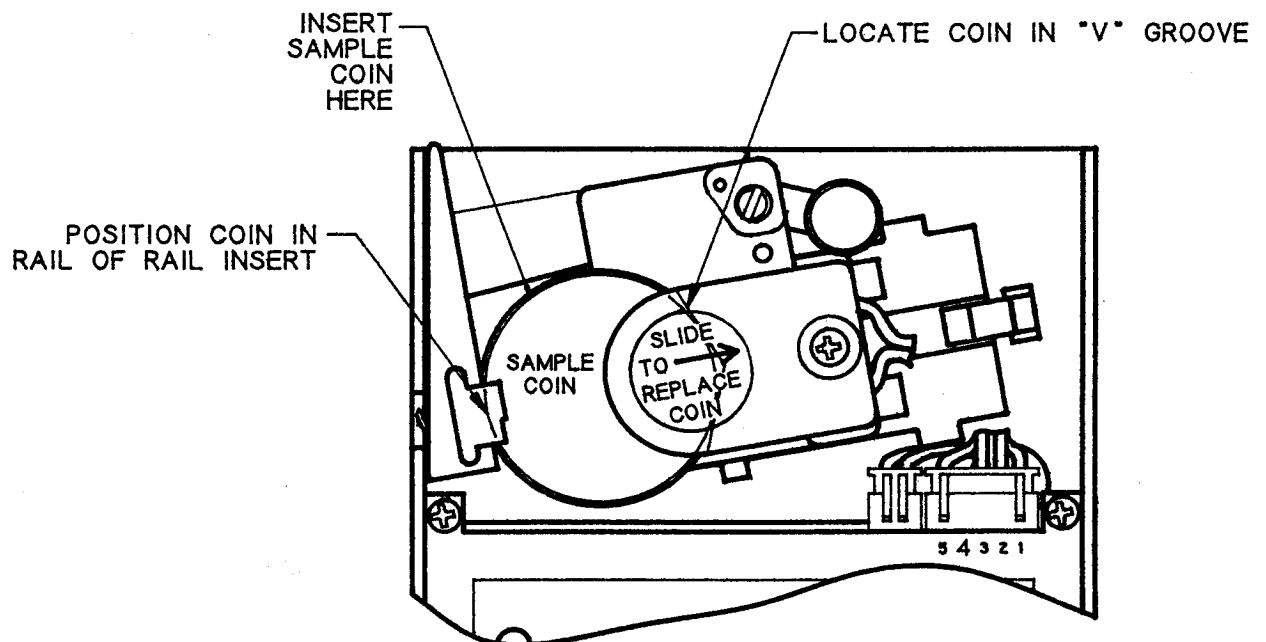

FIG. 3
- 1A. POWER OFF, INSERT PLASTIC TOKEN (SEE FIG. 3).
1 C. IF METER READING IS LOWER THAN 35 μ ADC INSERT SAMPLE COIN (SEE FIG. 3) METER INDICATOR SHOULD DEFLECT TOWARDS 50 μ ADC. IF METER DEFLECTS TOWARDS 50 μ ADC REMOVE SAMPLE COIN AND PROCEED TO STEP 1.D., IF THERE IS NO METER DEFLECTION OBSERVED, COIL ASSY IS FAULTY.